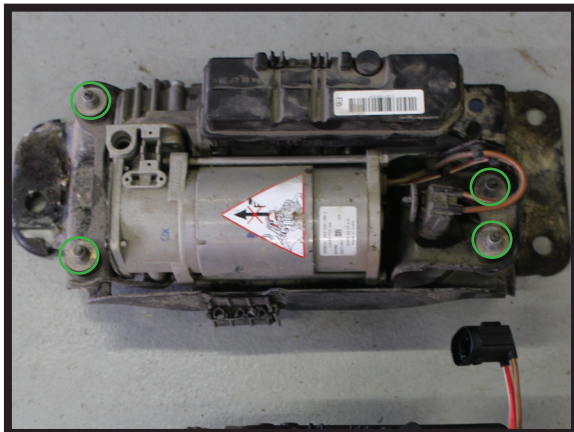

FIGURE 10
1. REMOVE THE OUTER BRACKET BY REMOVING THE 4 NUTS. (FIGURE 10, 11)